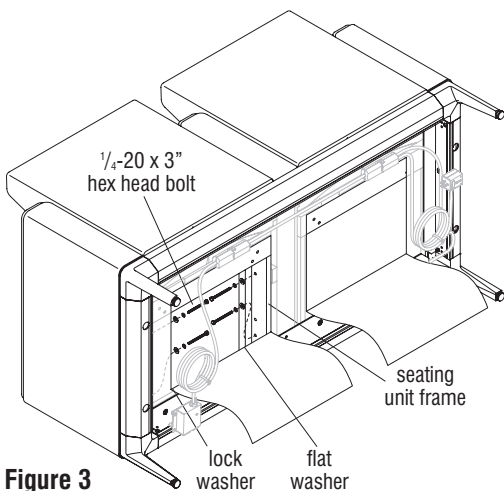

Figure 3
4. Remove two 1/4-20 x 3" hex head bolts, lock washers, and flat washers securing each lounge arm to the seating unit frame that is next to the affected lounge seat. Set the bolts and washers aside to be reinstalled in a later step (Figure 3 & Detail A).